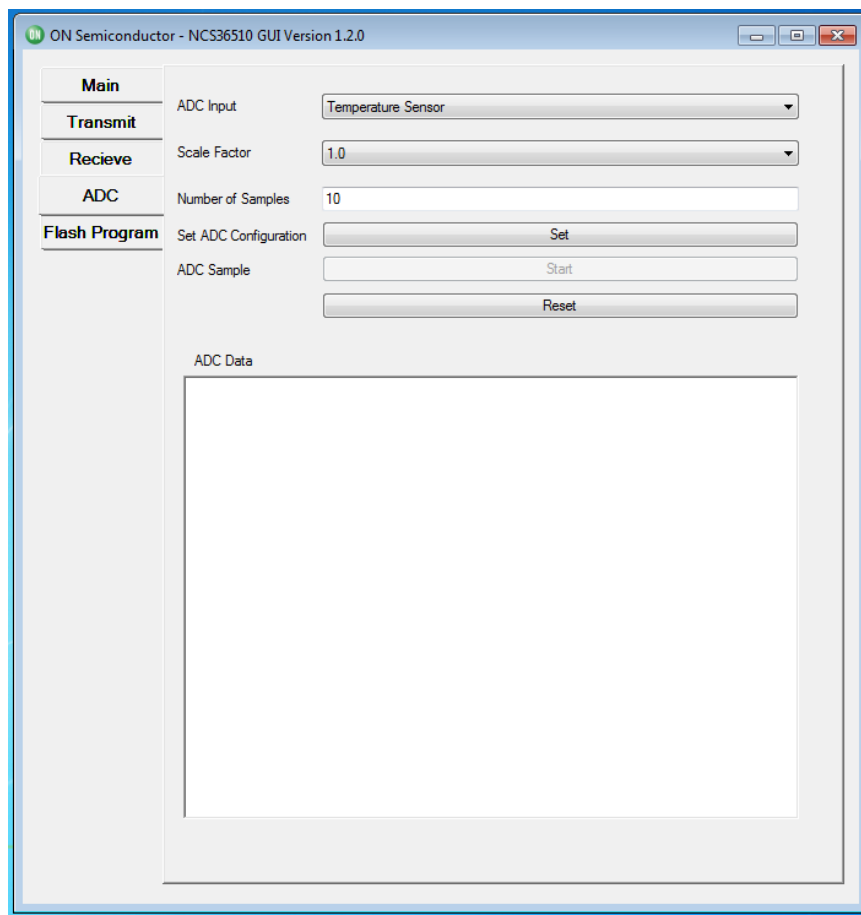

Figure 14. GUI–ADC–Interface
3. Select the “ADC” tab as shown in Figure 2, the “ADC” page will look as shown in Figure 14.